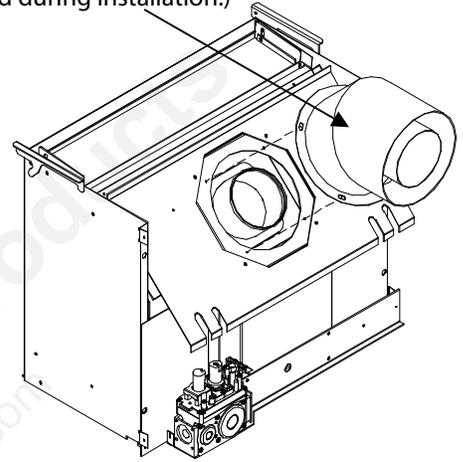

Figure 22: Step 4 of Converting Top Vented into Rear Vented.
4. Turn the elbow to the desired position and re-fasten with the screws removed from the previous step (see Figure 22).